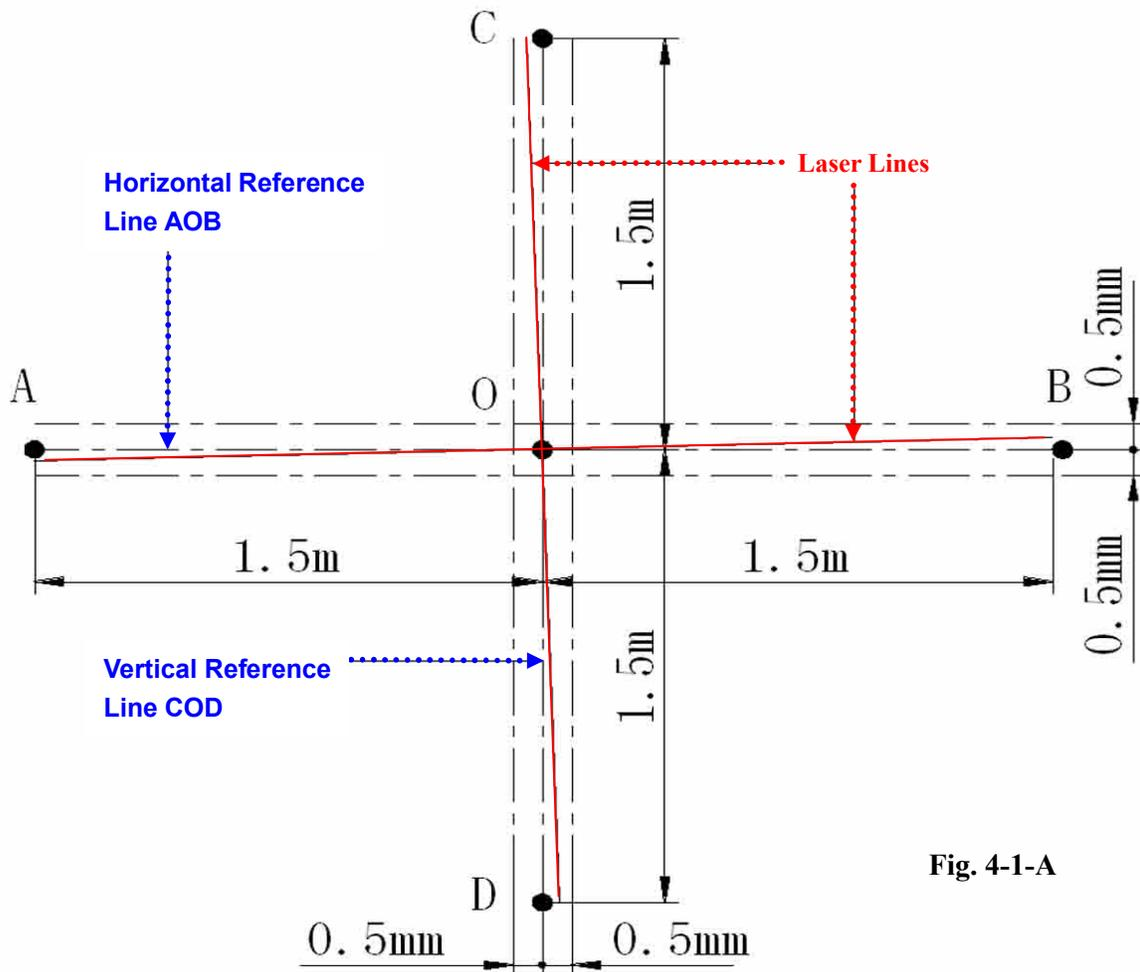

Fig. 4-1-A
2. Establish and mark a level horizontal line and TWO (2) plumb vertical lines as Reference Lines. The horizontal reference line is named AOB. The vertical reference line coming from the front of the instrument is shown in Fig. 4-1-A above and is named COD-1. [NOTE: Point "O" should share the same height as the laser output source of the instrument] The vertical line coming from the side is named COD-2.